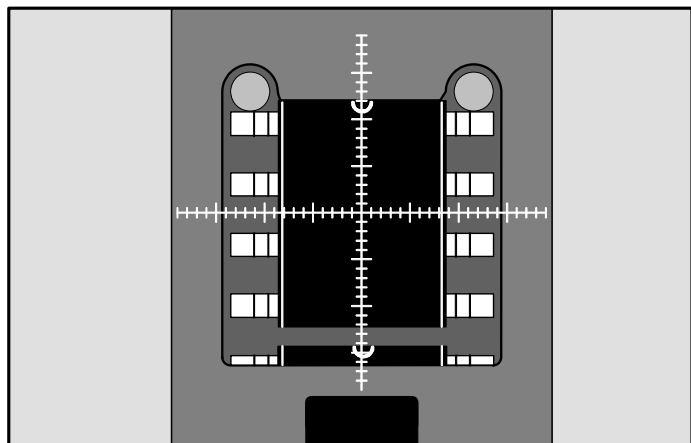

Figure 6-3. Locating the pick position.
3. Center the cross hairs on the component in the pick position, see Figure 6-3. If the first component is not fed to the pick position, feed it by pressing <F4> (*Step feeder*).